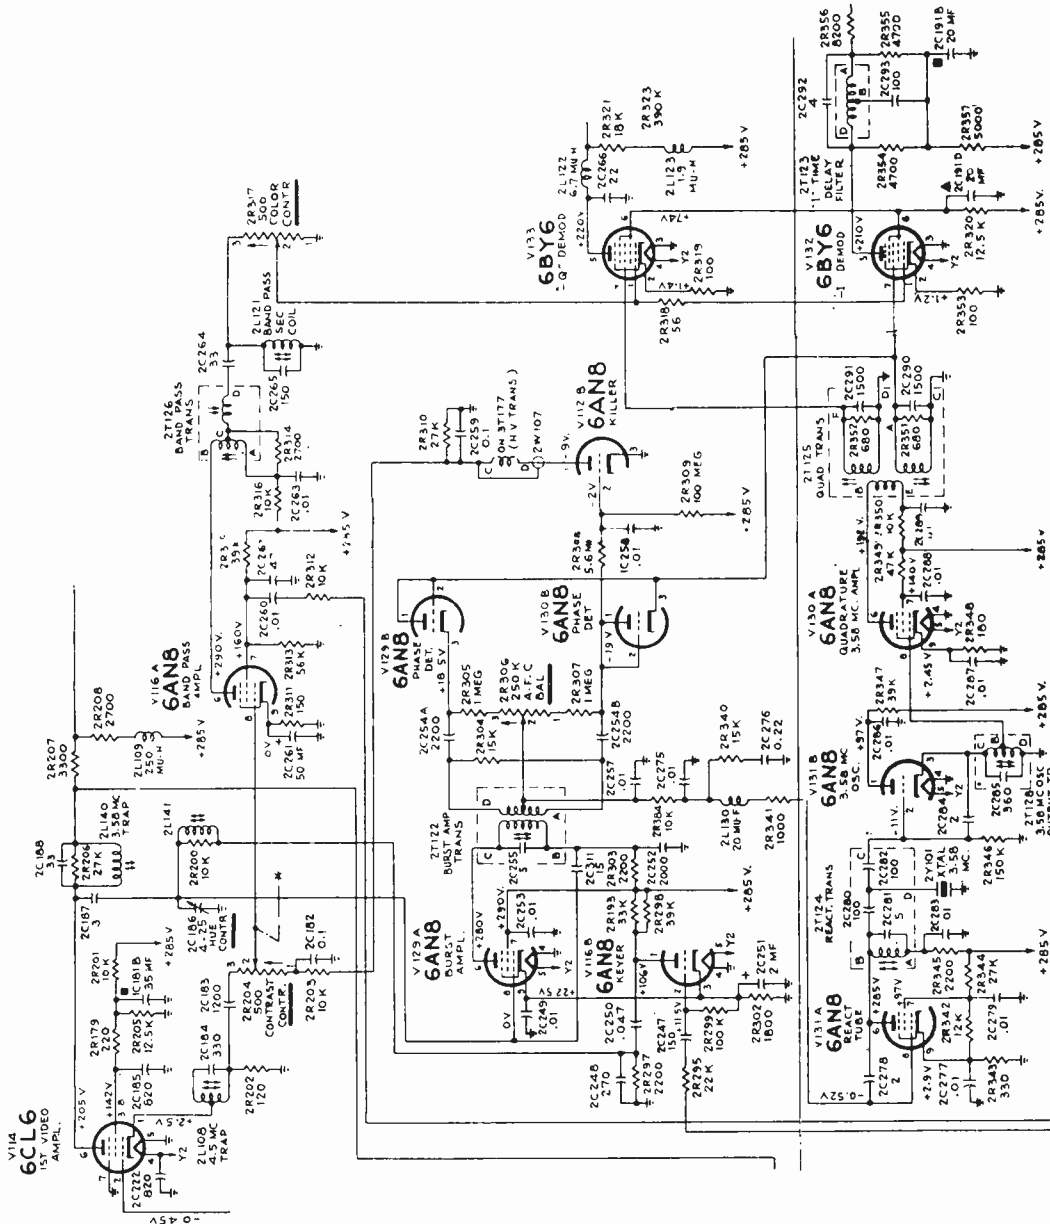

FIG. 3. Color circuits used for RCA Model CT-100.
color circuits which are to be checked are shown in Fig. 3.
The most logical place to start looking for the cause of the trouble is in the inputs of the color demodulator or synchronous detector stages. These are the 6BY6 tubes, VI 32 and VI 33 in Fig. 3. In order for them to operate normally, the chrominance signal must reach the control grids of these stages and the CW reference signals must reach the suppressor grids. If either the chrominance or the reference signals are missing there will be complete color loss.
1. *Chrominance and CW Reference Signals Present.* If the chroma signal and the CW reference signals are present, the trouble is probably in the demodulator stages themselves. Since the symptom we are discussing is a complete lack of color, the defect must be in a circuit common to both demodulators or both tubes would have to be bad at the same time (which rarely happens). In the circuit of Fig. 3, the screens of the two demodulators are returned to the voltage source through a common 12.5K-ohm resistor. If this resistor were to open, no voltage would be supplied to the screens and neither demodulator stage could operate. Similarly, a defect in the 20-mfd capacitor by-passing this resistor would affect both stages.